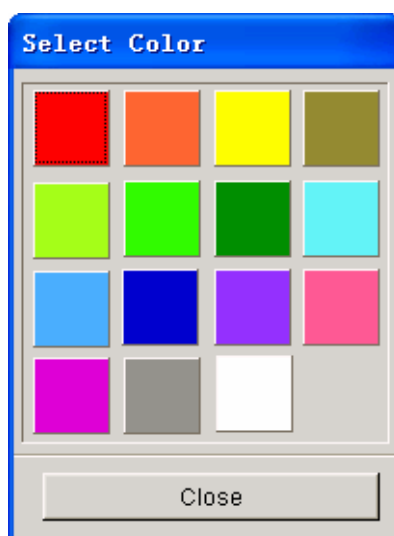

Figure 4.1.2 Select Color
3. Select the COLOR button to display the SELECT COLOR window allowing the user to choose a color. The color options are chosen from the Select Color dialog box as shown in Figure 4.1.2.